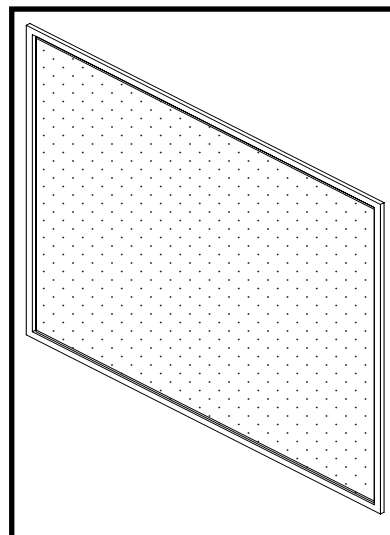

Figure 59: Safety barrier screen.
6. Attach the magnetic safety barrier screen (Figure 59) to the outer-most door frame.